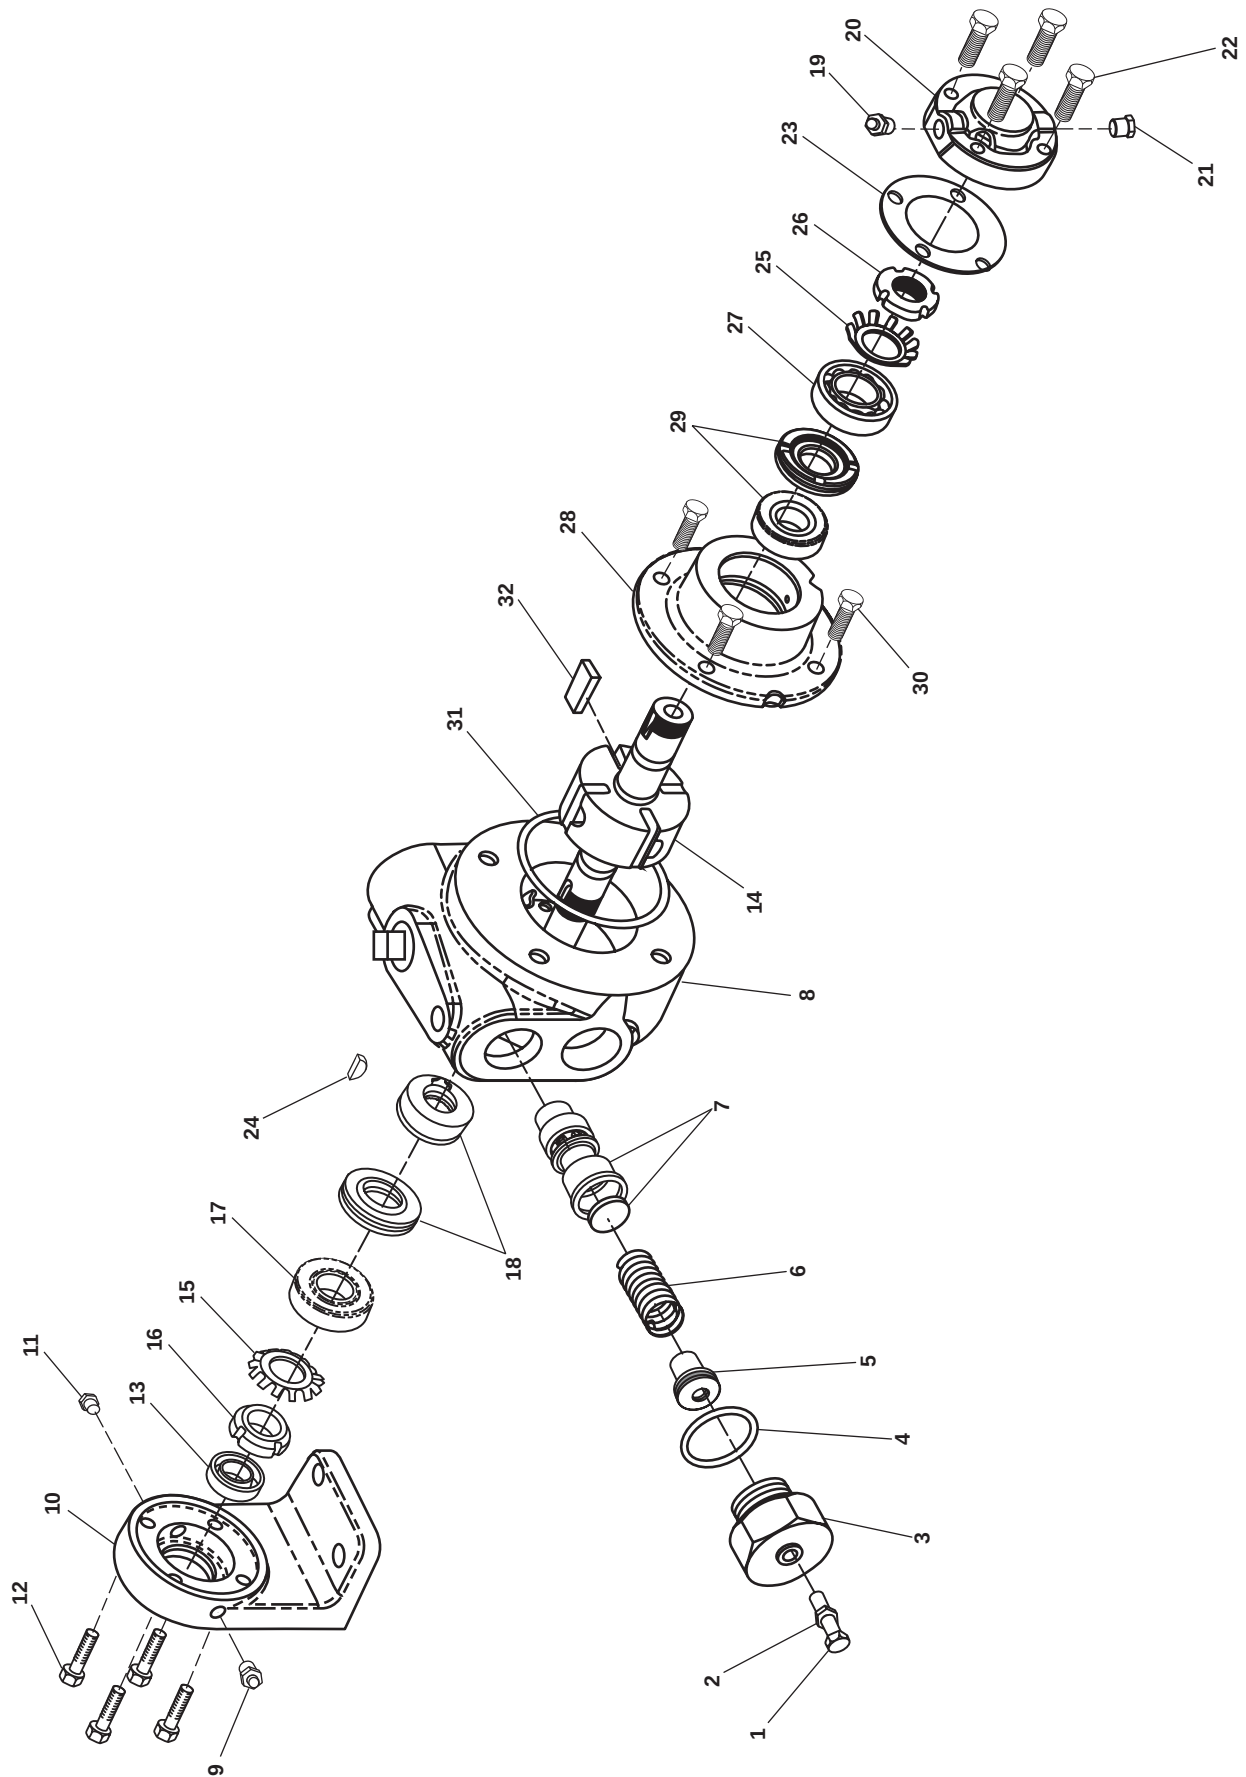

Figure 1. Lube Oil Transfer Pump
1. Loosen the locknut (figure 1, item 1) and remove the adjusting screw (figure 1, item 2) from the cover (figure 1, item 3).
2. Remove the cover (figure 1, item 3) and O-ring (figure 1, item 4). Discard O-ring.
3. Remove the spring guide (figure 1, item 5) and preformed packing (spring) (figure 1, item 6).
4. Remove the disc and valve (figure 1, item 7) from the pump body (figure 1, item 8).
5. Remove the grease fitting (figure 1, item 9) from the mounting bracket (figure 1, item 10).
6. Remove the grease fitting relief (figure 1, item 11) from the mounting bracket (figure 1, item 10).
7. Remove the four cap screws (figure 1, item 12) from the mounting bracket (figure 1, item 10).
8. Slide the mounting bracket (figure 1, item 10) and the grease seal (figure 1, item 13) off the rotor and shaft assembly (figure 1, item 14). Discard the grease seal.
9. Remove the lockwasher (figure 1, item 15) and the bearing locknut (figure 1, item 16) from the rotor and shaft assembly (figure 1, item 14) using the lockout tool. Do not discard the lockwasher and bearing locknut.
10. Remove the ball bearing (figure 1, item 17) from the pump body (figure 1, item 8). Discard the ball bearing.
11. Remove the mechanical seal (figure 1, item 18) from the rotor and shaft assembly (figure 1, item 14).
12. Remove the grease fitting (figure 1, item 19) from the bearing cover (figure 1, item 20).
13. Remove the grease fitting relief (figure 1, item 21) from the bearing cover (figure 1, item 20).
14. Remove the four cap screws (figure 1, item 22) from the bearing cover (figure 1, item 20) and slide the bearing cover and the gasket (figure 1, item 23) off the rotor and shaft assembly (figure 1, item 14). Discard the gasket.
15. Remove the shaft key (figure 1, item 24) from the rotor and shaft assembly (figure 1, item 14).
16. Remove the lockwasher (figure 1, item 25) and the bearing locknut (figure 1, item 26) from the rotor and shaft assembly (figure 1, item 14) using the lockout tool. Do not discard the lockwasher and bearing locknut.
17. Remove the ball bearing (figure 1, item 27) from the head (figure 1, item 28).
18. Remove the mechanical seal (figure 1, item 29) from the head (figure 1, item 28).
19. Remove the four cap screws (figure 1, item 30) from the head (figure 1, item 28) and remove the head from the pump body (figure 1, item 8).
20. Remove the O-ring (figure 1, item 31) from the head (figure 1, item 28). Discard the O-ring.
21. Remove the rotor and shaft assembly (figure 1, item 14) from the pump body (figure 1, item 8).
22. Remove the vanes (figure 1 item, 32) from the rotor and shaft assembly (figure 1, item 14). Discard the vanes.